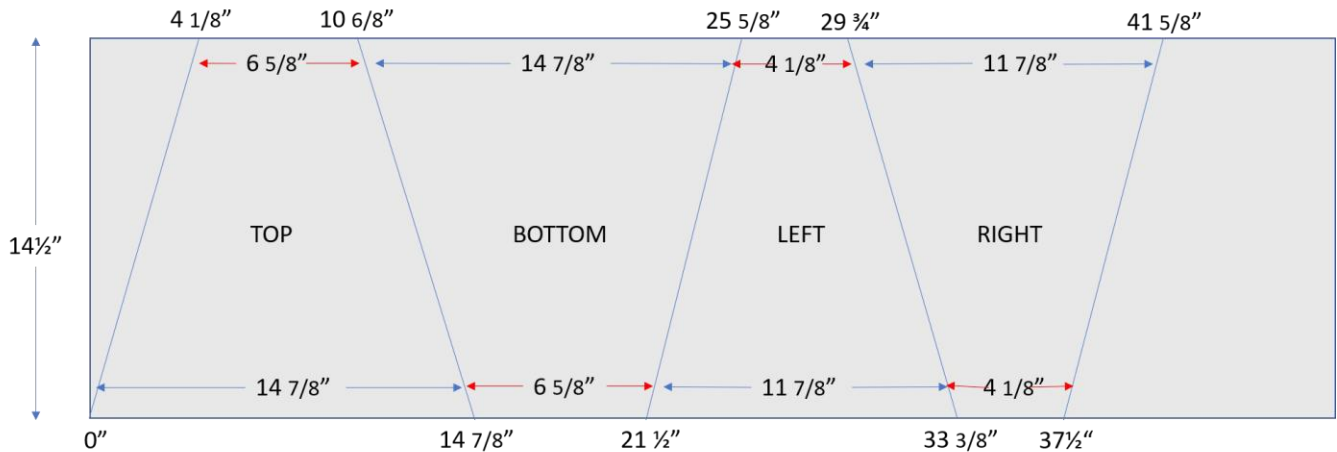

Figure 1. Panel layout and dimensions for the mini horn.
2. Mark four panels using Figure 1. Guide the box cutter with a metal straightedge.